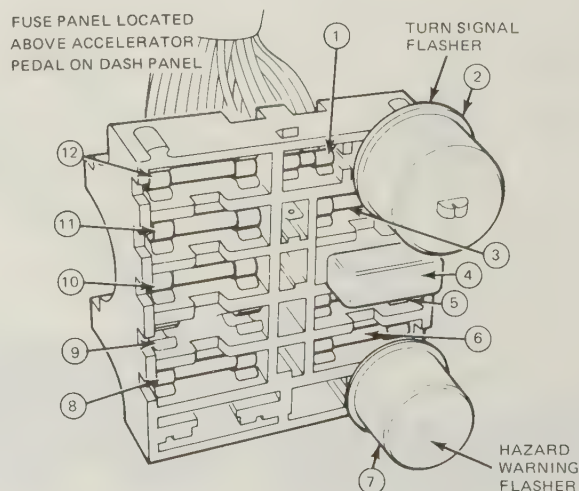

Fig. 10.34. Fuse panel assembly (Sec. 44)
- 2 Most of the electrical circuits are protected by fuses and fuse identification is given in the caption to Fig. 10.34. If a fuse blows always trace the cause and rectify before renewing the fuse.